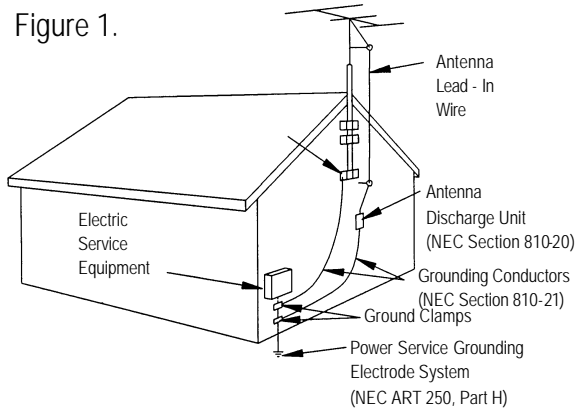

Figure 1.
5. **Cleaning and Disinfecting** – Unplug this TV from the wall outlet before cleaning. Do not use liquid cleaners or aerosol cleaners. Use a damp cloth for cleaning. Do not immerse this TV in water. **Exception:** A product that is meant for uninterrupted service and for some specific reason, such as the possibility of the loss of an authorization code for a cable TV converter, is not intended to be unplugged by the user for cleaning or any other purpose, may exclude the reference to unplugging the appliance in item 5.
13. **Outdoor Antenna Grounding** – If you connect an outside antenna or cable system to the TV, be sure the antenna or cable system is grounded so as to provide some protection against voltage surges and built-up static charges. Section 810 of the National Electrical Code, ANSI/NFPA No. 70, provides information with respect to proper grounding of the mast and supporting structure, grounding of the lead-in wire to an antenna discharge unit, size of grounding conductors, location of antenna discharge unit, connection to grounding electrodes, and requirements for the grounding electrode. (See Figure 1.)